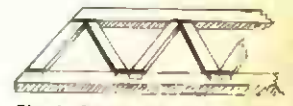

Fig. 4—Showing fixing of cross pieces
This part, shown at Fig. 4 (G) is cut to the size given from  $\frac{1}{4}$  in. wood. Cut it as a plain rectangle first. Then cut a second bit of the wood,  $\frac{1}{2}$  in. wide and  $1\frac{1}{2}$  in. long. Get this an easy fit in the film groove, then glue it behind the gate in the centre, shown by the dotted lines. Glasspaper the surface of this to reduce its thickness just enough to allow the film to pass between it and the panel. Test this with a piece of the actual film.